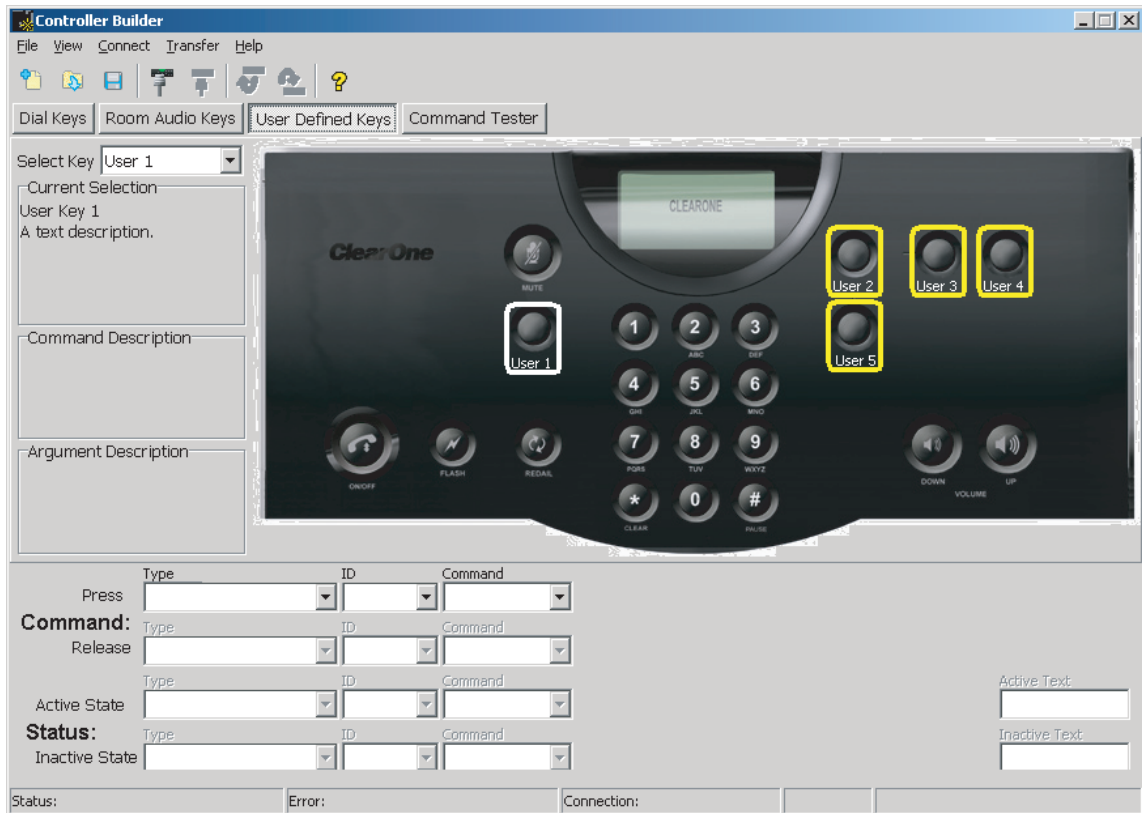

FIGURE 2.10 Customizing user defined keys
1. Click the **User Defined Keys** button. The **USER 1**, **USER 2**, **USER 3**, **USER 4**, and **USER 5** keys are outlined in the Controller Builder window. Click the key you wish to modify or select the key from the **Select Key** drop-down list. The **Current Selection** description field instructs you to select the device type and device ID (DID) for the unit that will be affected when you press the selected key (see Figure 2.10).